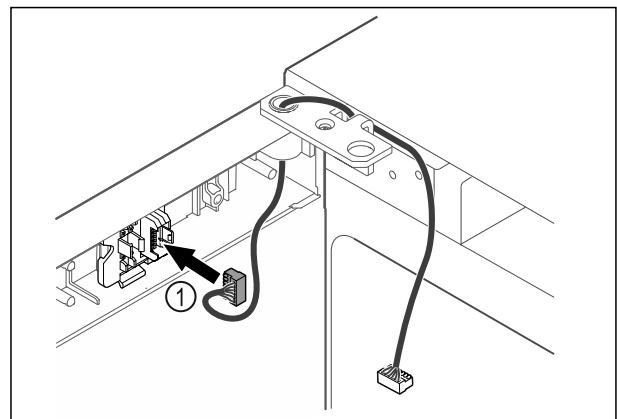

Fig. 58
- ▶ Put the plug Fig. 58 (1) in the plug holder.